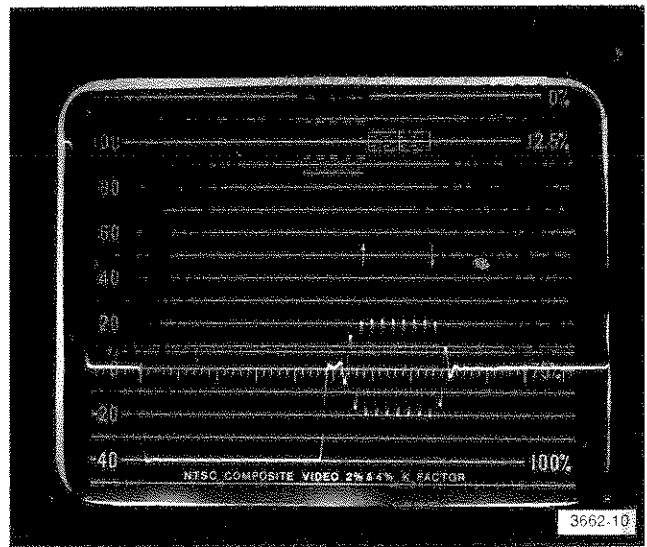

Fig. 2-8. Display of a 10-step modulated staircase signal with the RESPONSE switch set to FLAT and the SWEEP switch set to 1 μ S/DIV.
16. Set the VARIABLE (VOLTS FULL SCALE) control to CAL, the RESPONSE switch to FLAT, and the SWEEP switch to 1 μ S/DIV. A magnified display of the horizontal blanking interval should be obtained. Set the POSITION controls as necessary for best viewing. A typical display is shown in Fig. 2-8.